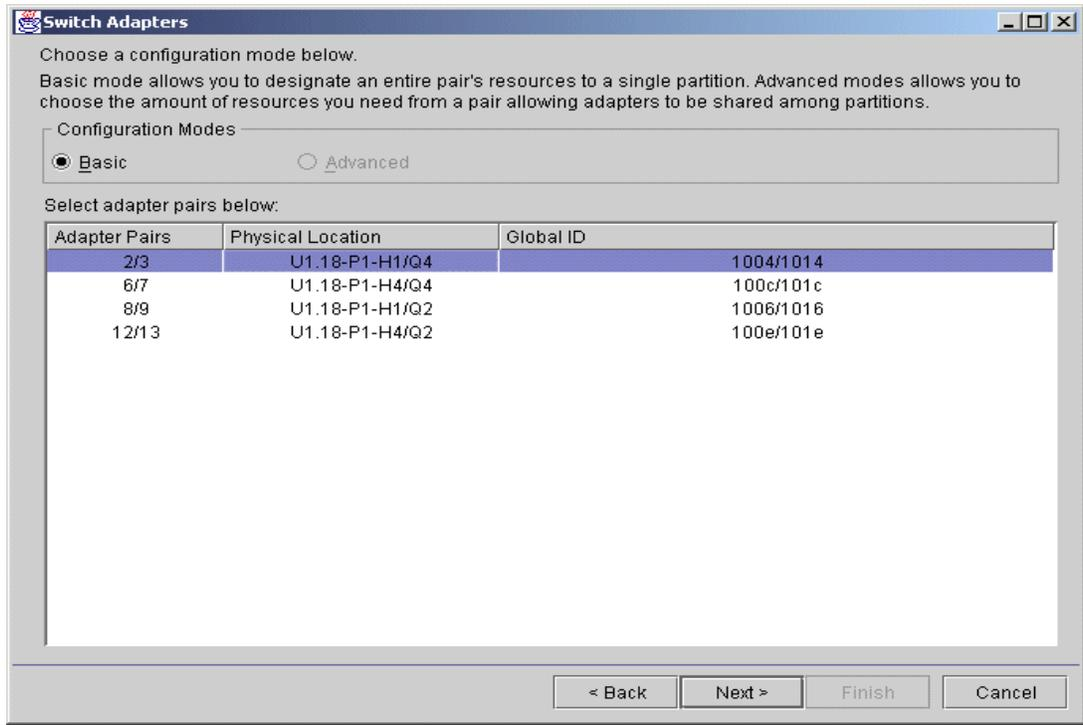

Figure 4-8 Assign the SNI interfaces to LPAR
4. Select the CPU, Memory and I/O resources for the new partition. After providing the CPU and memory resources, you are requested to select the SNI interfaces for your partition, as shown in Figure 4-8.
- ▶ Q2 and Q4 in Figure 4-8 refer to the two link pairs of a 4-link SNI adapter. The ports of an SNI adapter can be allocated to partitions only in pairs. A link pair cannot be split between partitions.